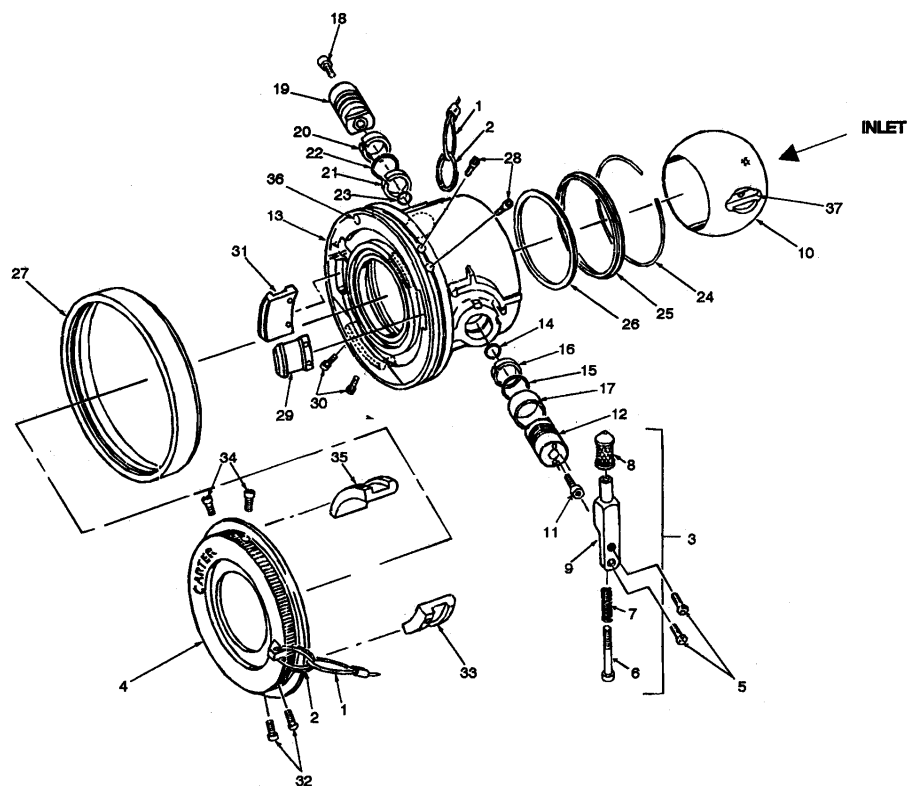

Figure 5-1. Three-Inch Valved Unisex Coupling
5.1 REPAIR THREE-INCH VALVED UNISEX COUPLING. (Refer to figure 5-1.)